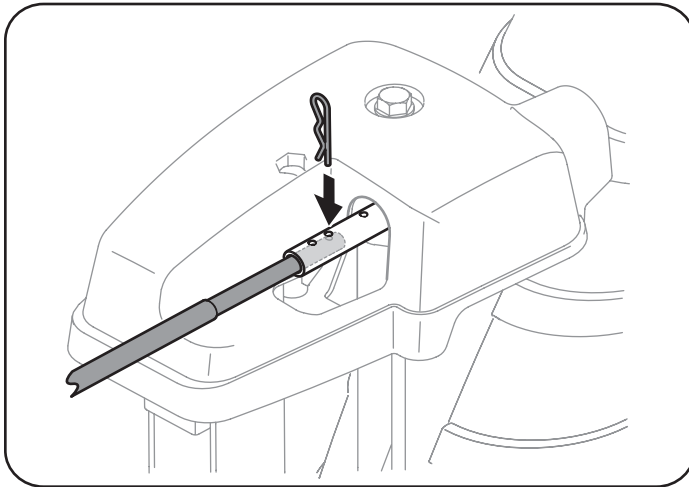

Figure 39
6. Push the chute control rod toward the control panel until the hole in the rod lines up with the middle hole in the chute control input and insert the cotter pin removed in Step 1. See Figure 39.